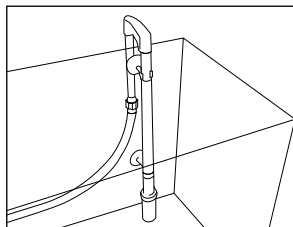

fig 3
- Choose the position you consider most appropriate for the suction unit, using the clips with suction caps (fig. 3).